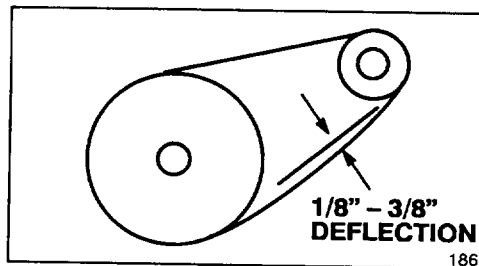

Figure 32
3. Check deflection of chain by lifting up on chain with moderate pressure at mid span. There should be 1/8-3/8" deflection (Fig. 32). If deflection is not as specified an adjustment is required.